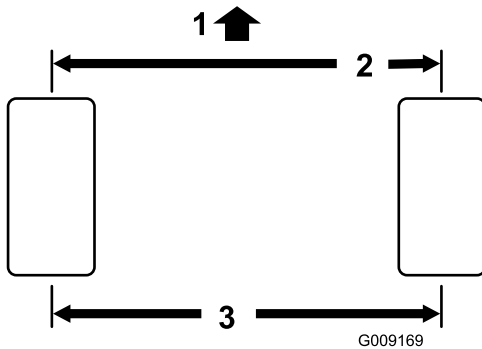

Figure 54
2. Measure the center-to-center distance (at axle height) at the front and rear of the steering tires (Figure 54). The measurement must be within 0 ± 3 mm (0 ± 0.12 inch) at the front of the tire then at the rear of the tire. Rotate the tire 90 degrees and recheck the measurement.